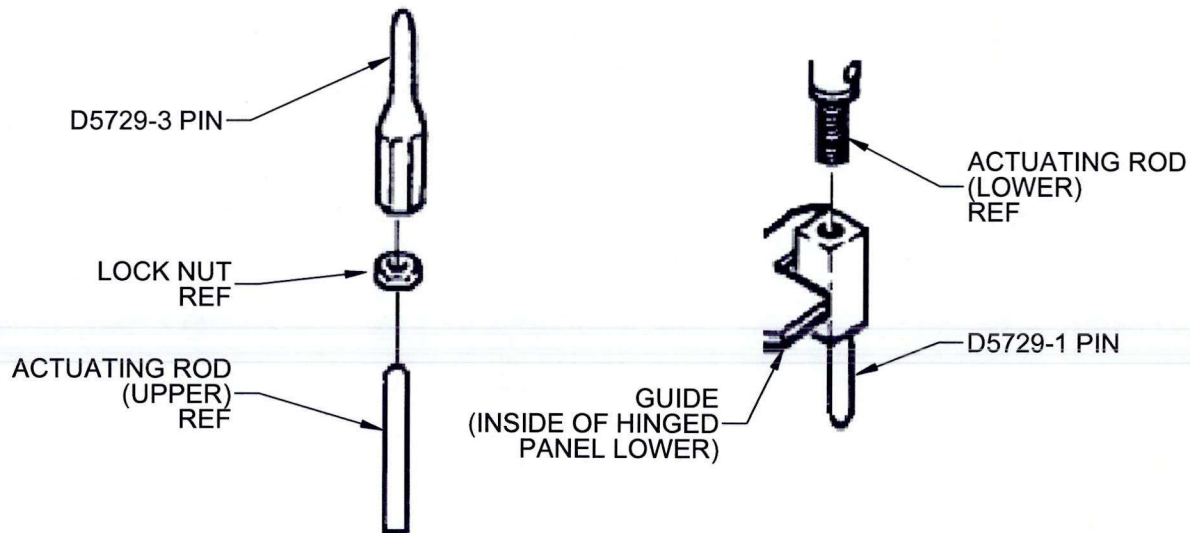

Figure 1 - Hinge Panel Latch Pin Installation
2. Install the D5729-3 Pin in place of the 205-030-505-003 Pin per the Aircraft Maintenance Manual. Refer to Figure 1.
4. Install the D5729-1 Pin in place of the 205-030-517-001 Pin per the Aircraft Maintenance Manual. Refer to Figure 1.